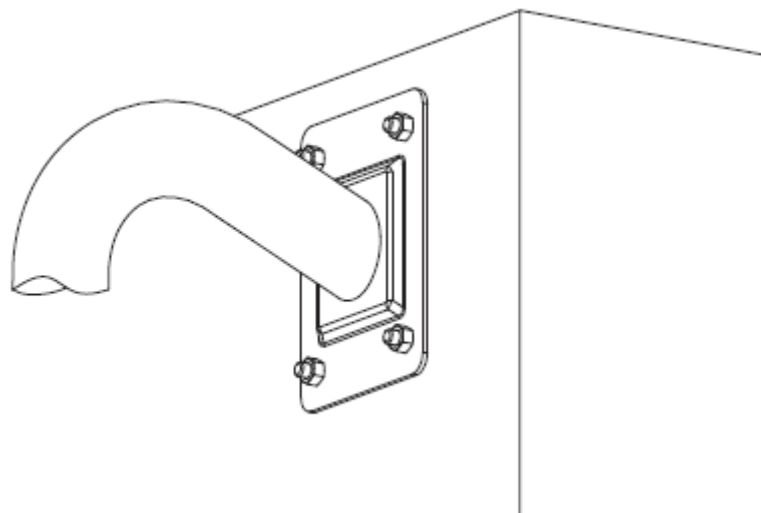

Figure 3-3
- 3) Dig holes in the wall according to the installation holes at the bottom of the wall mount bracket. Please make sure the cable exit of the bracket is facing the round hole of the wall. Insert expansion bolts (not provided) to the holes you just dug. Connect the composition cable and then pull it through the hole in the wall. Use four hex screws, flat washer and spring washer to secure the bracket on the wall of the expansion bolts. See Figure 3-3.